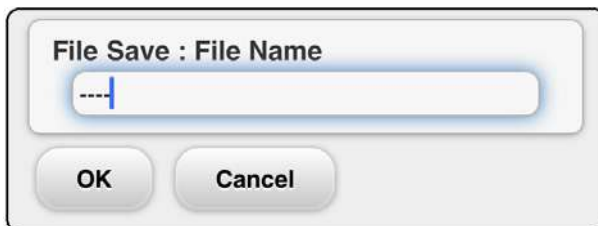

Fig. 4-101 Measured Data Saving Window
- (1) When saving the measured data, press  [save button] icon shown at the header part.
- (2) The file input window (Fig. 4-101) will then be shown. After a saving file name is input, press [OK button].